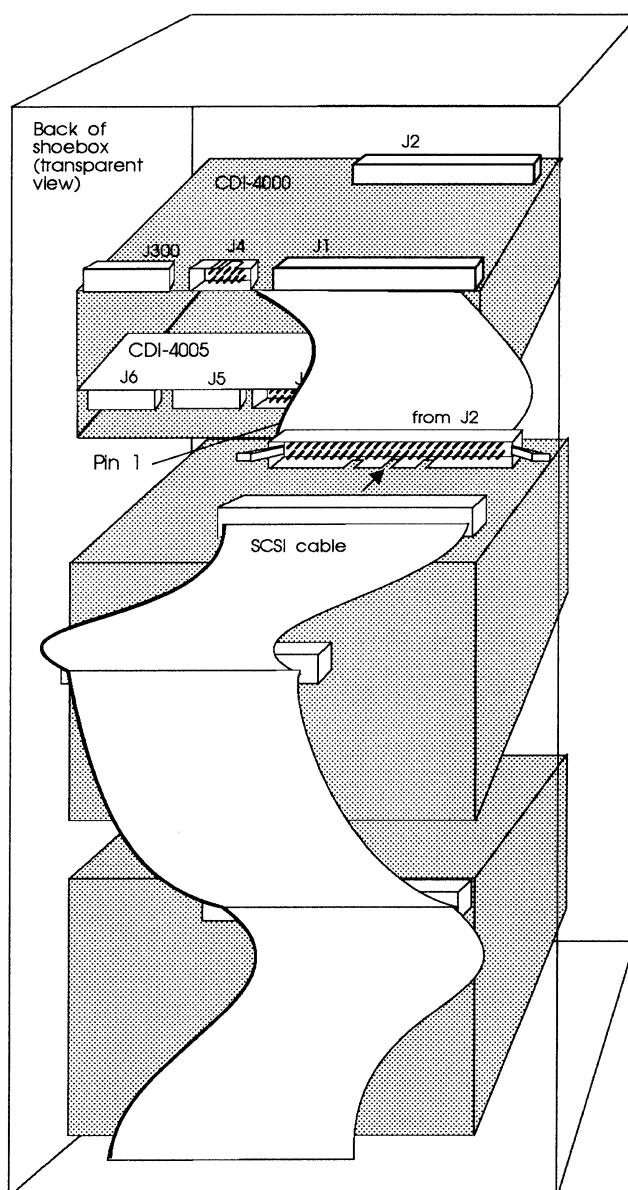

Figure 7-5: SCSI port (J2) cable connection
- 13 Connect the male connector (with the ejector latch of the internal SCSI cable, coming from J2 on the CDI-4000) to the SCSI cable going to the SCSI drives. (If OEM does not supply SCSI cable contact CMD.) See Figure 7-5.
- 13 Connect the male connector (with the ejector latch of the internal SCSI cable, coming from J2 on the CDI-4000) to the SCSI cable going SCSI drives. If OEM does not supply SCSI cable contact CMD. See Figure 7-5 for reference.